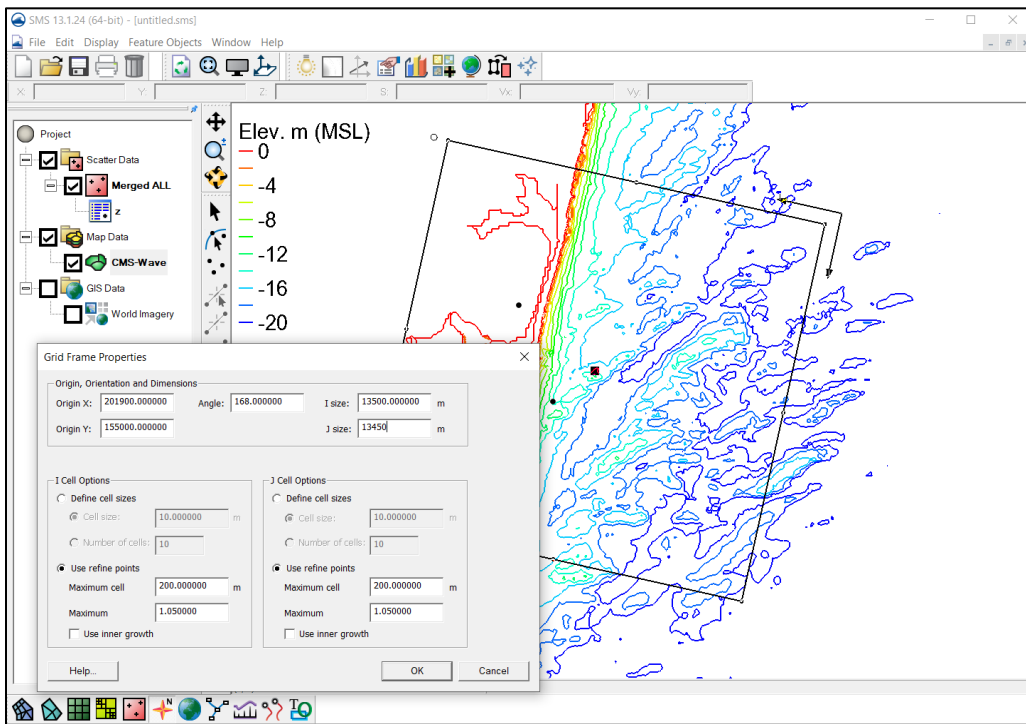

Figure 9. Specifying refine point maximum cell size(s) and maximum growth factor.
- Once the refine feature points with the base cell size(s) were specified, return (click) to the *Grid Frame Properties* dialog . Select “Use refine points” to provide Maximum cell size and also Maximum (factor) for transition of fine cells (base cell size) to coarse cells (maximum cell size) as shown in Figure 9.
growth for each pair of refine feature points. This feature is not typically applied for most grid generations (Figure 9).